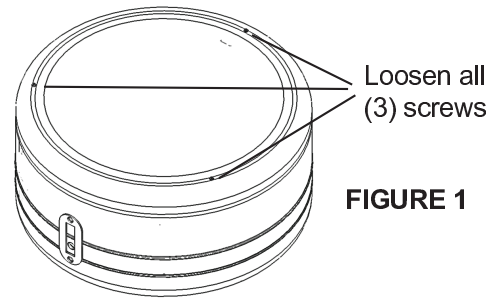

FIGURE 1
2. Loosen (3) top cover screws by turning CCW (counter-clockwise). Screws are captive; do not remove from top cover. See Fig. 1.